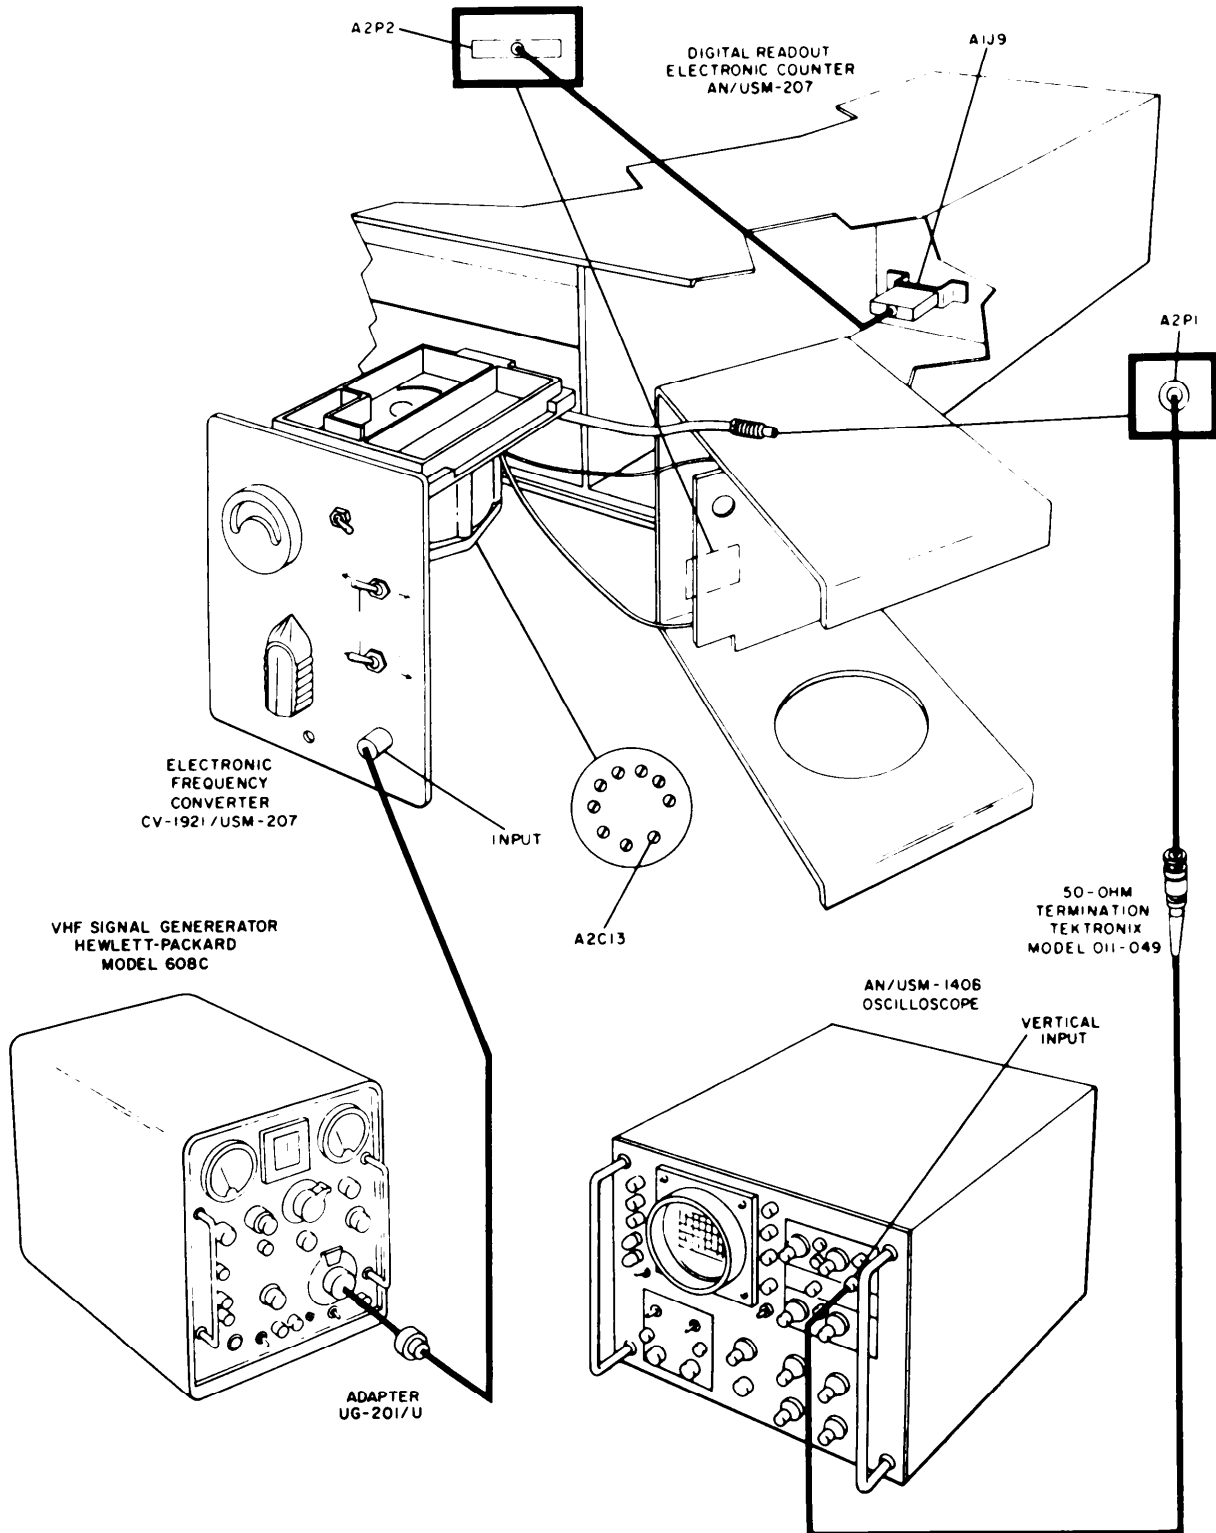

Figure 5-23. Selecting Capacitor A2C14, Test Setup
(1) If a defective A2C14 is being replaced, proceed to step (2). If capacitor A2C15 was replaced proceed to step (5).
(2) Disassemble the cavity casting as described in paragraph 5-5t.
(3) Choose a capacitor with a 22-pf value, and connect it temporarily to the terminals normally occupied by A2C14.
(4) Replace the cavity cover on the cavity casting and secure it temporarily with three screws.
(5) Connect test setup as shown in figure 5-23